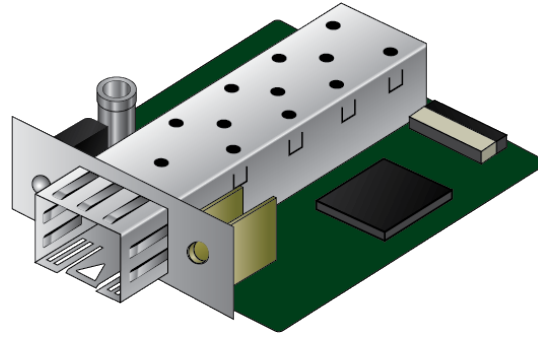

Figure 7. Installing the Backplate to the SFP Board
8. Ensure that the backplate is installed to the SFP board securely. See Figure 7.